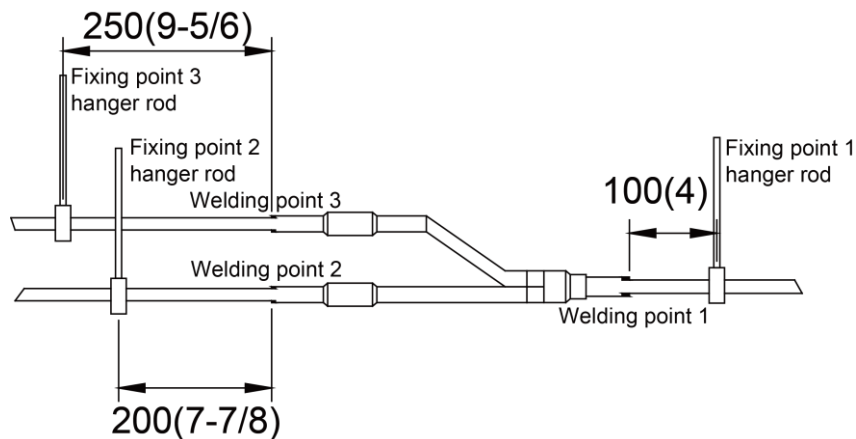

Fig.4.3.6
- (3) There must be three fixing point for both horizontal and vertical installation of the Y-type manifold. See Fig.4.3.6.